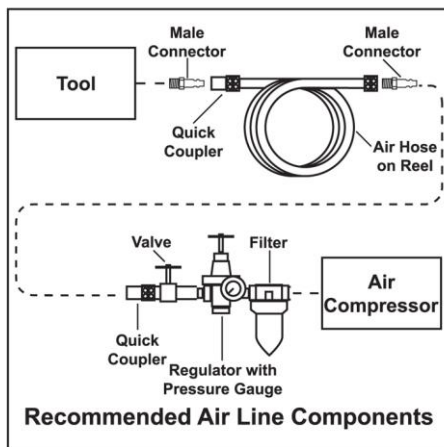

Fig. 1
4. Always use an air regulator, an in-line filter and a moisture trap in your compressed air system. These accessories will increase the tool's life and keep the tool in good working condition. See Fig.1 for recommended components of an air line.